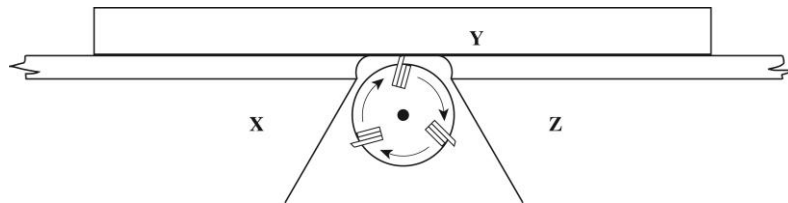

Figure 4. Side view of surface planer
4. Figure 4 shows the side view of a surface planer or jointer with three parts labelled X, Y and Z.